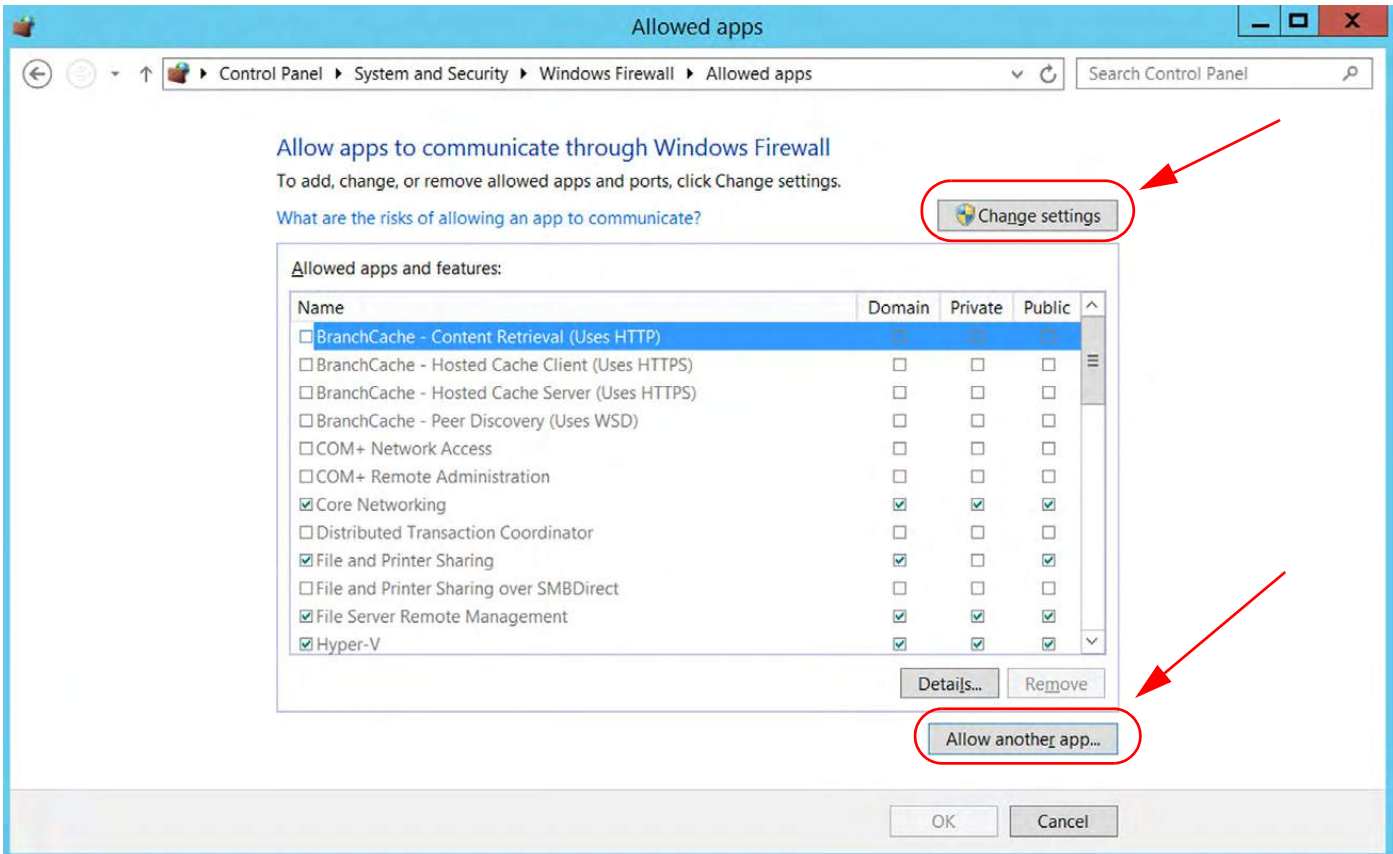

Figure 3.4: Windows Server 2012: Change Settings -> Allowed Another app
4. From the Windows Firewall screen -> Allow apps to communicate through Windows Firewall, select "Change settings", then select "Allow another program". See Figure 3.4.